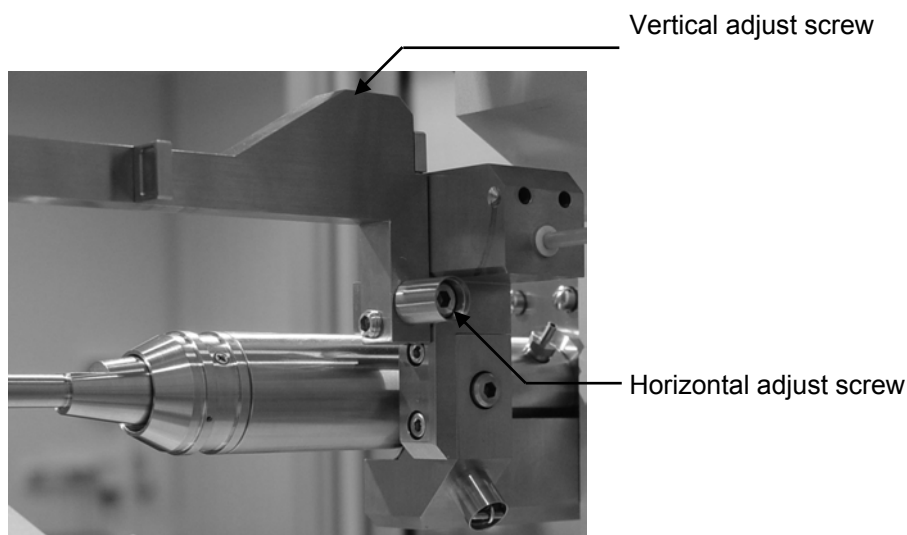

Figure 9.5.1 Beam stop adjustment screws
6. Adjust the beam stop position, using the horizontal and vertical adjustment screws (see Figure 9.5.1) and the special tool '1' or 2mm Allen key (See figure 9.1.2) provided.